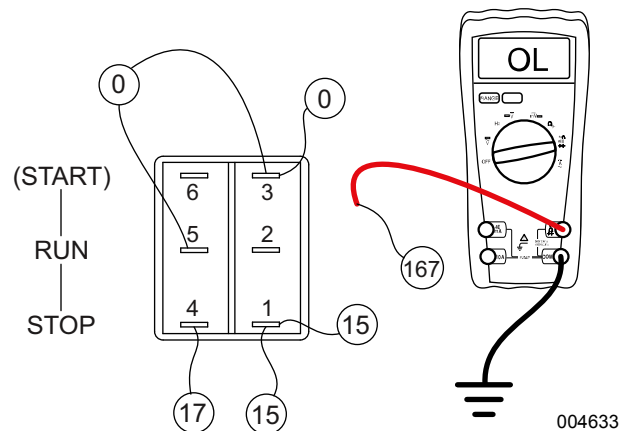

Figure 4-56. Check Wire 167
2. See Figure 4-56. Disconnect wire 167 from the start-run-stop switch (SW1).